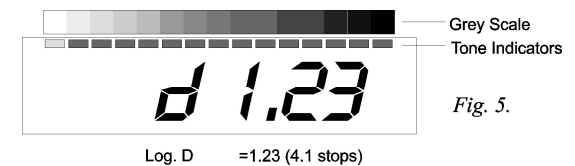

Fig. 5.
Position the remote sensor in a highlight (dense negative) part of the image and press and release the Measure button. After a longer delay (allowing the light sensor to react to the lower light level), the measured density range in logarithmic units is shown temporarily (Fig.5) followed by the new exposure time and two print tone indications as shown in Fig.6. Again, the suggested exposure is adjusted to give near-white (A print density of D0.04) for the highlight exposure. Adjust the paper grade setting as follows:
2. The LED representing the most recent measurement will flash briefly to assist identification. During this period, the display shows the relative density of the negative as a log.D figure (refer to Fig.5). The density measurements are always relative to the brightest measurement so for them to be useful ensure that you meter the brightest negative area (deepest print shadow) first.